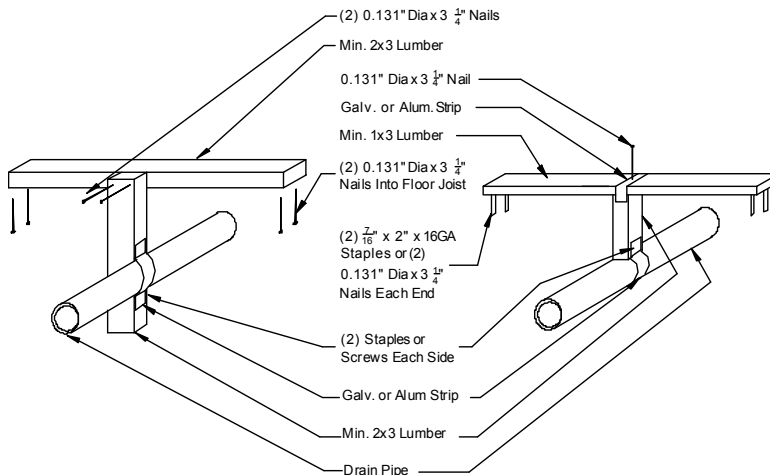

Figure 73. DWV pipe support options
5. **Install supports.** Install permanent drain line supports at a distance of four feet o.c. or less (see **Figure 70**, **Figure 71** and **Figure 73**).